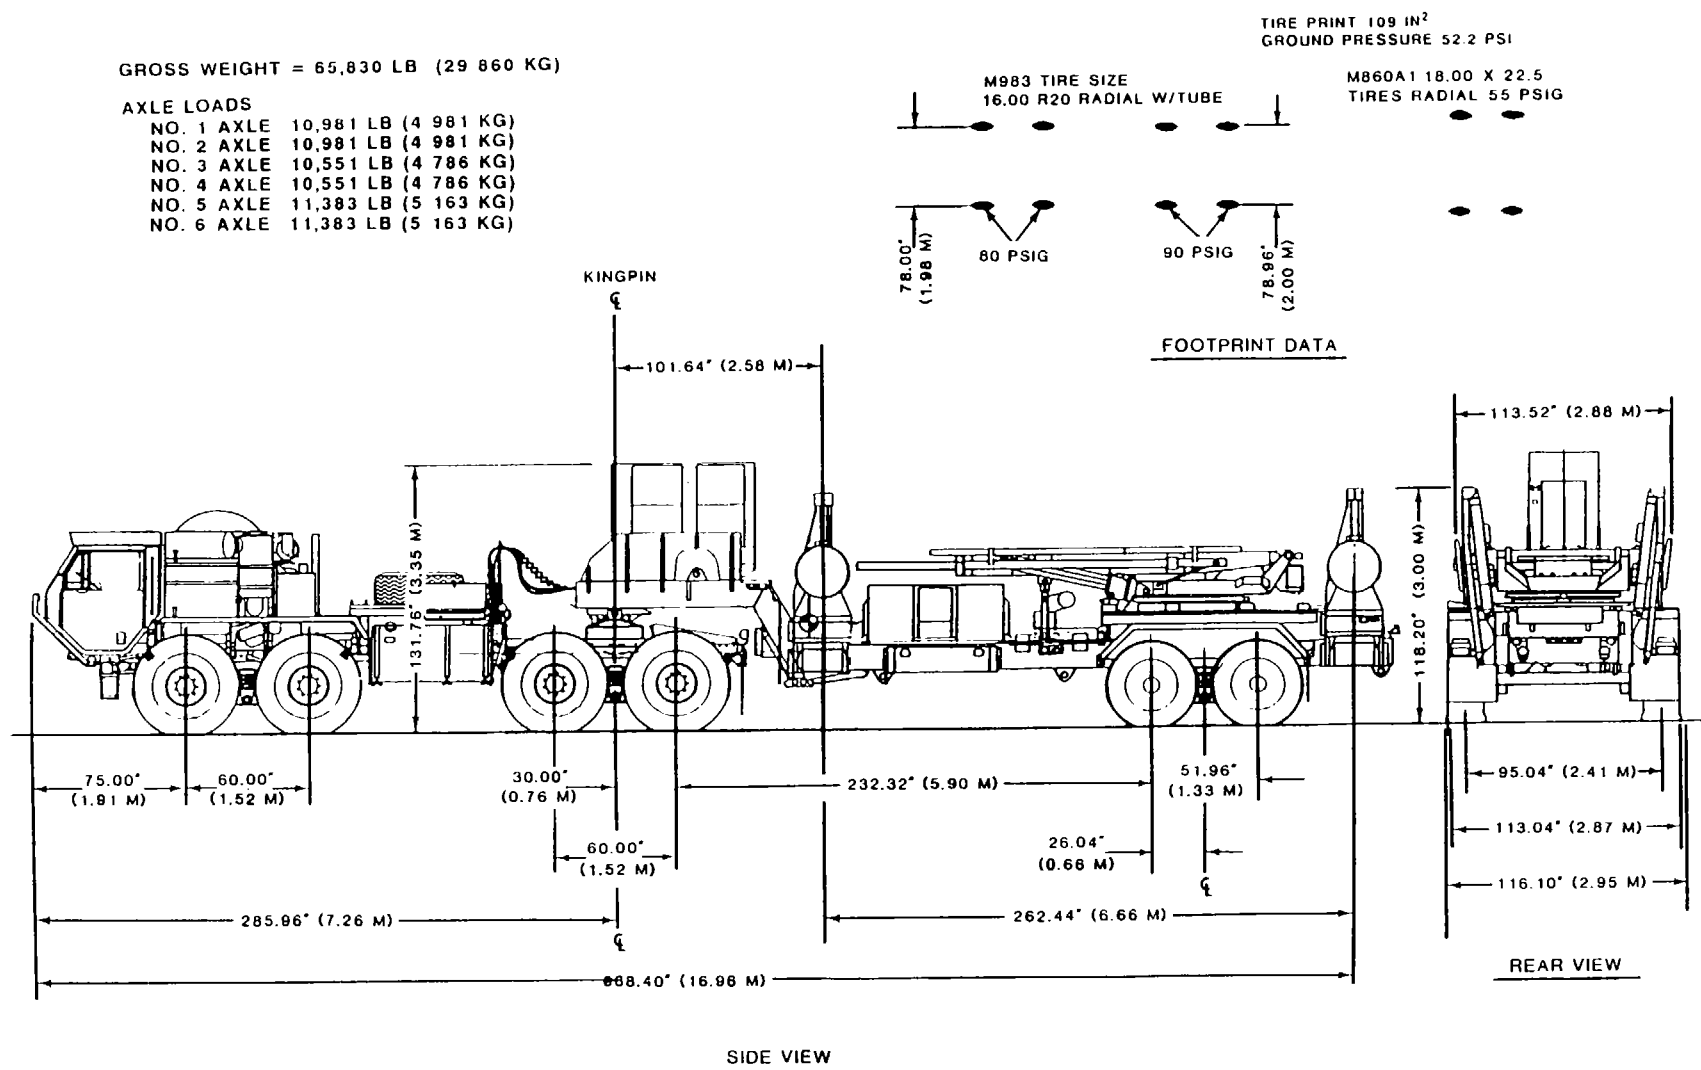

Figure 2-9. Launching station M901, semitrailer-mounted, towed by an M983 truck-trailer
d. *Launching Station (LS), Semitrailer-Mounted, M901.* The PATRIOT missile system uses the M983 HEMTT as the prime mover for the LS, as shown in figure 2-9. The M983, a 10-ton, 8 x 8 truck-tractor, is shown in figure 2-2. The LS mounted on the M860A1 semitrailer is shown in figure 2-10. The M860A1 has